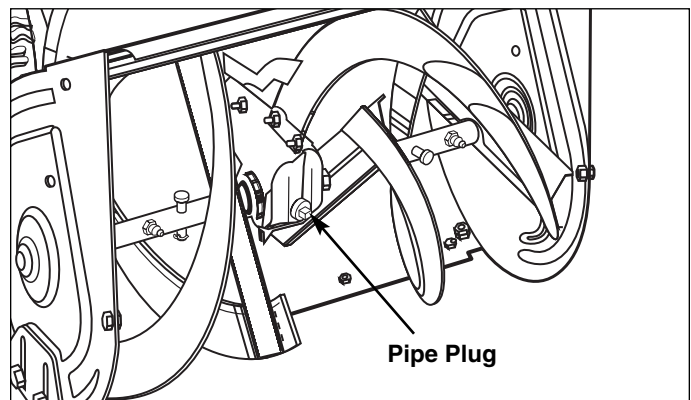

Figure 8. Auger Lubrication
2. Remove the pipe plug (A, Figure 8).